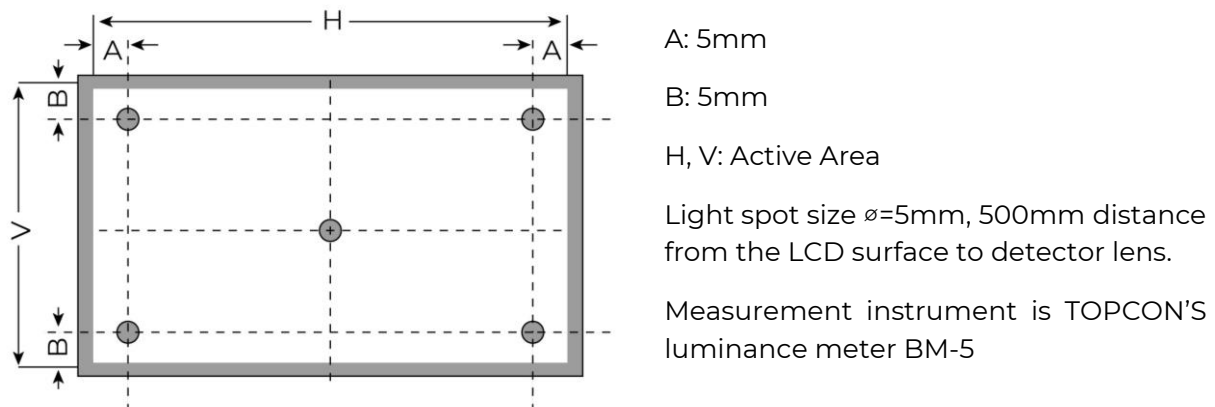

Figure 2. Measuring method for Contrast ratio, surface luminance, Luminance uniformity, CIE (x, y) chromaticity
**Note 1.** Contrast Ratio (CR) is defined mathematically as below, for more information see Figure 2.
**Note 2.** Surface luminance is the LCD surface from the surface with all pixels displaying white. For more information see Figure 2.
**Note 3.** The uniformity in surface luminance  $\delta$  WHITE is determined by measuring luminance at each test position 1 through 5, and then dividing the minimum luminance of 5 points luminance by maximum luminance of 5 points luminance. For more information see Figure 2.